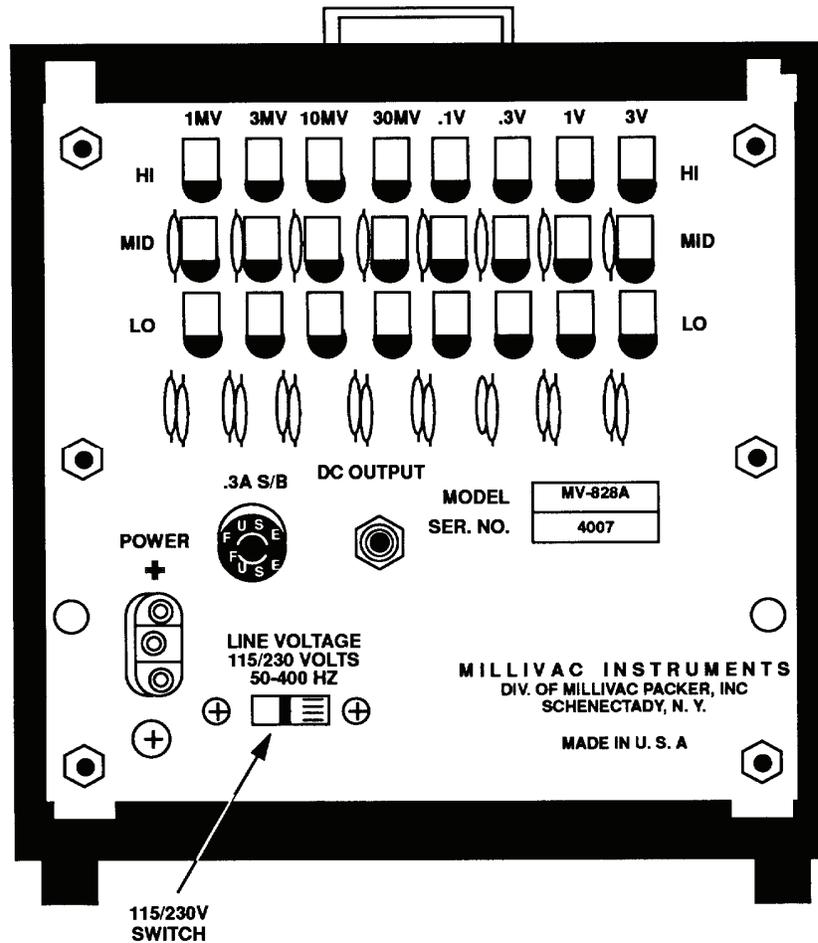

Figure 1. AN/URM-145D - adjustment locations.
- (3) Connect TI RF probe to calibrator **WIDEBAND OUTPUT**.
- (4) Adjust calibrator for 0.001 V ac output. Adjust **1MV HI** (fig. 1) for a meter indication between 0.0009 and 0.0011 mV (ideal 0.001) (R).
- (5) Adjust calibrator for .0006 V ac output. Adjust **1MV MID** (fig. 1) for a meter indication between 0.0005 and 0.0007 V ac (ideal 0.0006) (R).
- (6) Adjust calibrator for 0.0003 V ac output. Adjust **1MV LO** (fig. 1) for a meter indication between 0.0002 and 0.0004 V ac (ideal 0.0003) (R).
- (7) Repeat (4) through (6) above until no further adjustments are required.
- (8) Disconnect TI RF probe from calibrator output.
- (9) Set **TI RANGE-FULL-SCALE** switch to **.003-VOLTS**.
- (10) Short TI RF probe to chassis and adjust **SET REF** control until meter pointer is at **SET REF** mark.
- (11) Connect TI RF probe to calibrator **WIDEBAND OUTPUT**.
(12) Adjust calibrator for 0.003 V ac output. Adjust **3MV HI** (fig. 1) for a meter indication between 0.00285 and 0.00315 V ac (ideal 0.003) (R).
(13) Adjust calibrator for 0.002 V ac output. Adjust **3MV MID** (fig. 1) for a meter indication between 0.00185 and 0.00215 V ac (ideal 0.002) (R).
(14) Adjust calibrator for 0.001 V ac output. Adjust **3MV LO** (fig. 1) for a meter indication between 0.00085 and 0.00115 V ac (ideal 0.001) (R).
(15) Repeat (12) through (14) above until no further adjustments are required.
(16) Set **TI RANGE-FULL-SCALE** switch to **.01-VOLTS**.
(17) Adjust calibrator for 0.01 V ac output. Adjust **10MV HI** (fig. 1) for a meter indication between 0.0095 and 0.0105 V ac (ideal 0.01) (R).
(18) Adjust calibrator for 0.006 V ac output. Adjust **10MV MID** (fig. 1) for a meter indication between 0.0055 and 0.0065 V ac (ideal 0.006).
- (19) Adjust calibrator for 0.003 V ac output. Adjust **10MV LO** (fig. 1) for a meter indication between 0.0025 and 0.0035 V ac (ideal 0.003) (R).
- (20) Repeat (17) through (19) above until no further adjustments are required.
- (21) Set TI **RANGE-FULL-SCALE** switch to **.03-VOLTS**.
- (22) Adjust calibrator for 0.03 V ac output. Adjust **30MV HI** (fig. 1) for a meter indication between 0.0285 and 0.0315 V ac (ideal 0.03) (R).
- (23) Adjust calibrator for 0.02 V ac output. Adjust **30MV MID** (fig. 1) for a meter indication between 0.0185 and 0.0215 V ac (ideal 0.02) (R).
- (24) Adjust calibrator for 0.01 V ac output. Adjust **30MV LO** (fig. 1) for a meter indication between 0.0085 and 0.0115 V ac (ideal 0.01) (R).
- (25) Repeat (22) through (24) above until no further adjustments are required.
- (26) Set TI **RANGE-FULL-SCALE** switch to **.1-VOLTS**.
- (27) Adjust calibrator for 0.1V ac output. Adjust **.1V HI** (fig. 1) for a meter indication between 0.095 and 0.105 V ac (ideal 0.1) (R).
- (28) Adjust calibrator for 0.06 V ac output. Adjust **.1V MID** (fig. 1) for a meter indication between 0.055 and 0.065 V ac (ideal 0.06) (R).
- (29) Adjust calibrator for 0.03 V ac output. Adjust **.1V LO** (fig. 1) for a meter indication between 0.025 and 0.035 V ac (ideal 0.03) (R).
- (30) Repeat (27) through (29) above until no further adjustments are required.
- (31) Set TI **RANGE-FULL-SCALE** switch to **.3-VOLTS**.
- (32) Adjust calibrator for 0.3 V ac output. Adjust **.3V HI** (fig. 1) for a meter indication between 0.285 and 0.315 V ac (ideal 0.3 V) (R).